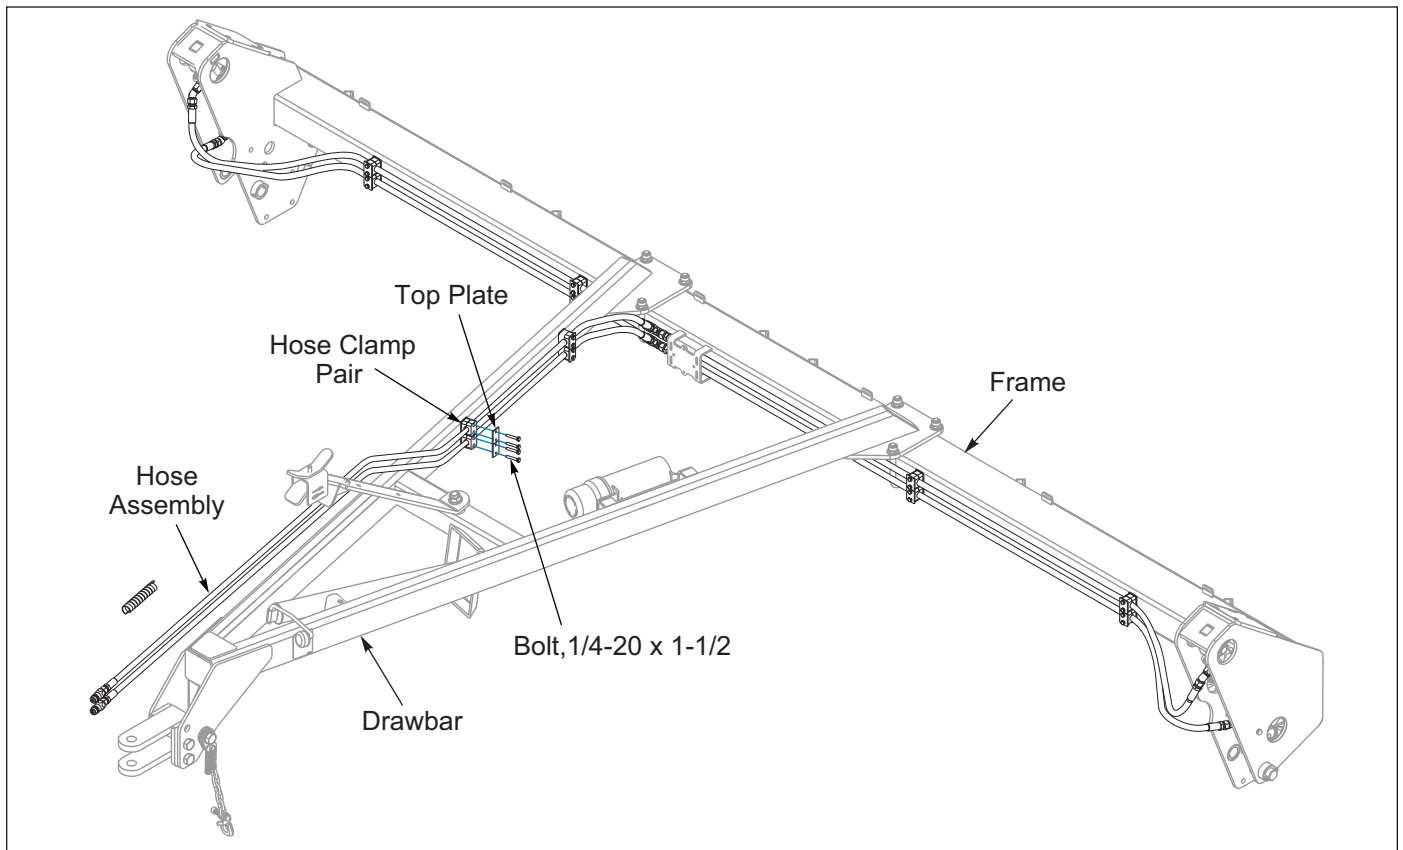

Figure 2-16: Drawbar Hydraulics (After 06/2026)
2. Route the Drawbar Hydraulic Hoses along Drawbar toward the Tractor. Secure Hoses to Drawbar with Hose Clamp Pairs, Top Plate and 1/4-20 x 1-1/2 Bolt. **See Figures 2-16 and 2-17.**